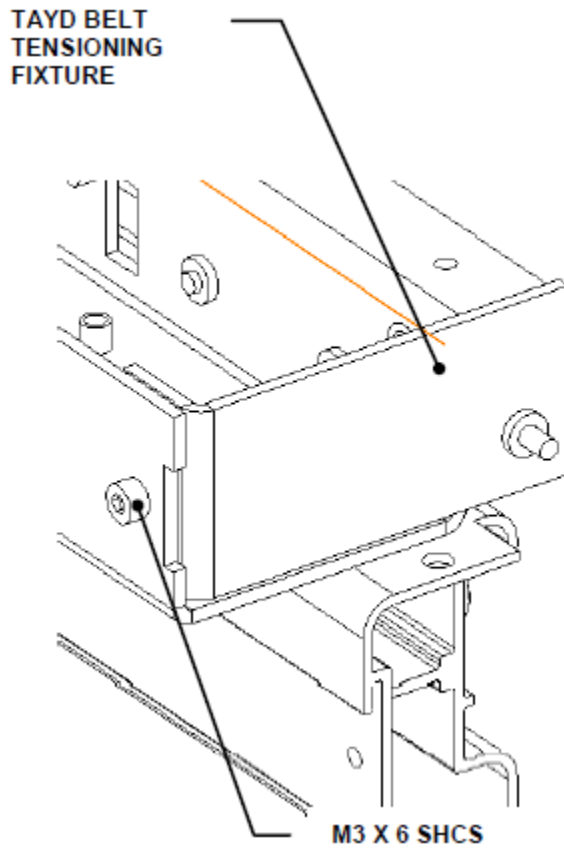

Figure Y-12: Transport Arm Y Drive Belt Tensioning Fixture
7. Fit the Transport Arm Y Drive Belt Tensioning Fixture (P24FIX008) to the Y Drive Plate using the screw supplied with the fixture (Figure Y-12). Do not use Loctite.